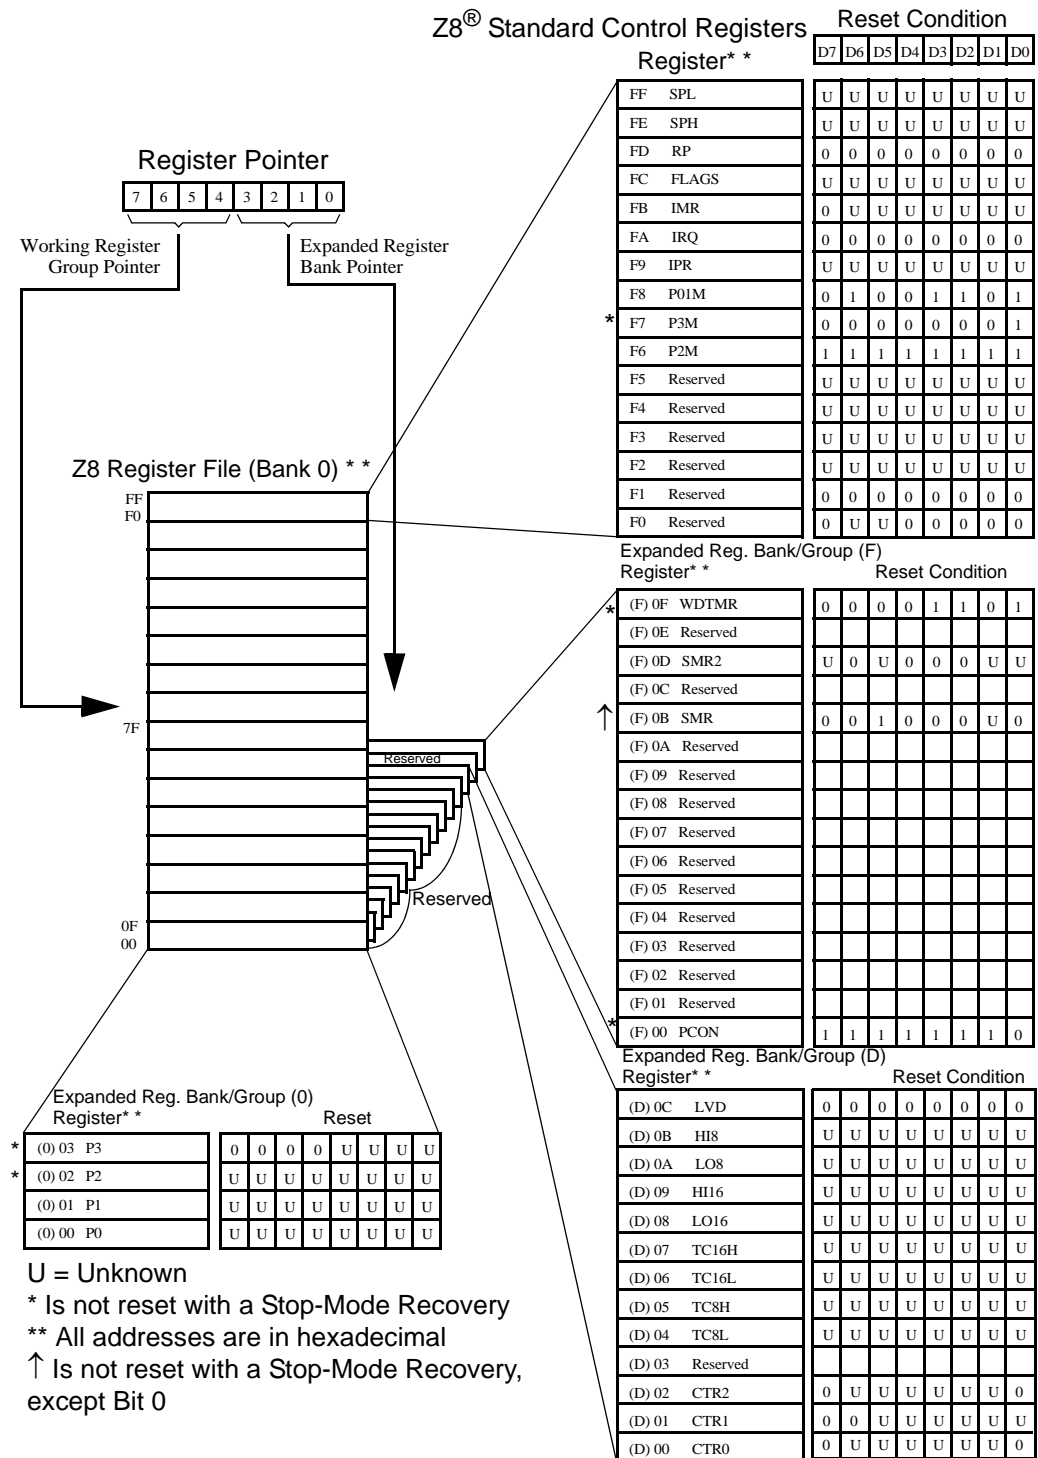

Figure 16. Expanded Register File Architecture
- **Note:** An expanded register bank is also referred to as an expanded register group (see Figure 16).
Example: Z86D73: (See Figure 16 on page 29)